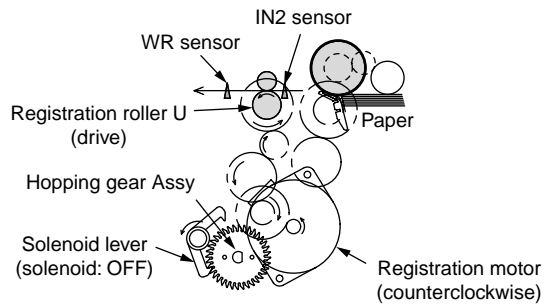

Figure 2-4
3. As shown in Figure 2-4, the registration motor rotates (counterclockwise) to let the registration roller U transport the paper. (As the registration motor rotates counterclockwise, the registration roller U is driven.)